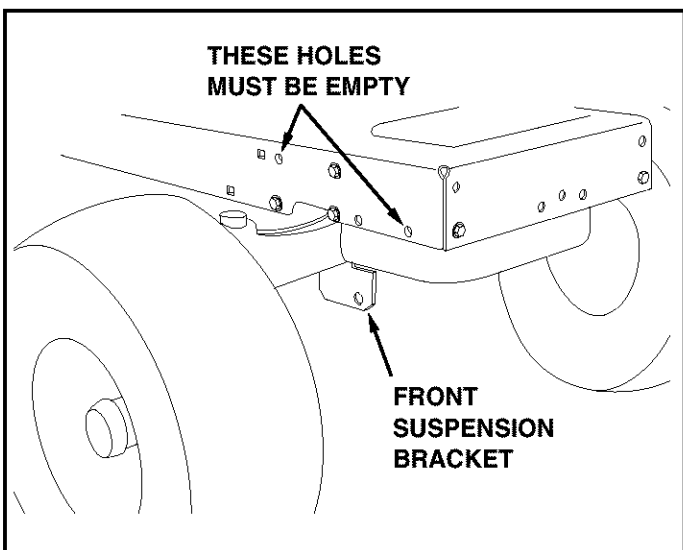

FIGURE 4 RIGHT SIDE VIEW
- Remove any bolts present in the holes shown in figure 4 on both sides of the tractor frame.